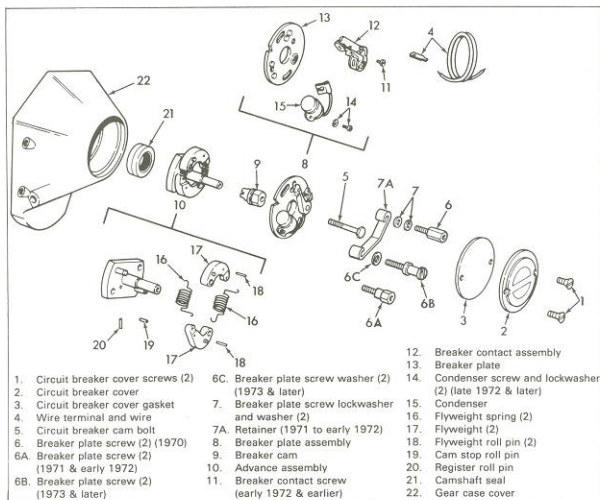

Figure 5-20. Circuit Breaker - Exploded View
DISASSEMBLING CIRCUIT BREAKER PARTS (Figure 5-20)
INSPECTING AND REPLACING PARTS (Figure 5-20)
Examine the coil to circuit breaker low tension wire (4, Figure 5-20) for brittle or cracked insulation and broken strands and replace if defective.
Circuit breaker point gap should be within .016-.020 in. limits on both cam lobes. If not within this range, the cam (9, Figure 5-20) or advance assembly (10, Figure 5-20) may be assembled incorrectly on camshaft, or parts may be damaged, causing erratic operation. Generally, loosening bolt (5) and repositioning advance assembly (10) toward widest point gap will equalize gap satisfactorily. Cam bolts (5) must be tightened to 60-80 in-lbs torque.